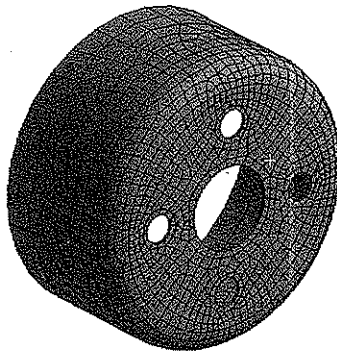

Figure 10-42 Mesh generated with the changed global mesh control settings
- 9. Choose the **Generate Mesh** option from the **Mesh** drop-down in the **Mesh** contextual toolbar; mesh is generated, as shown in Figure 10-42.